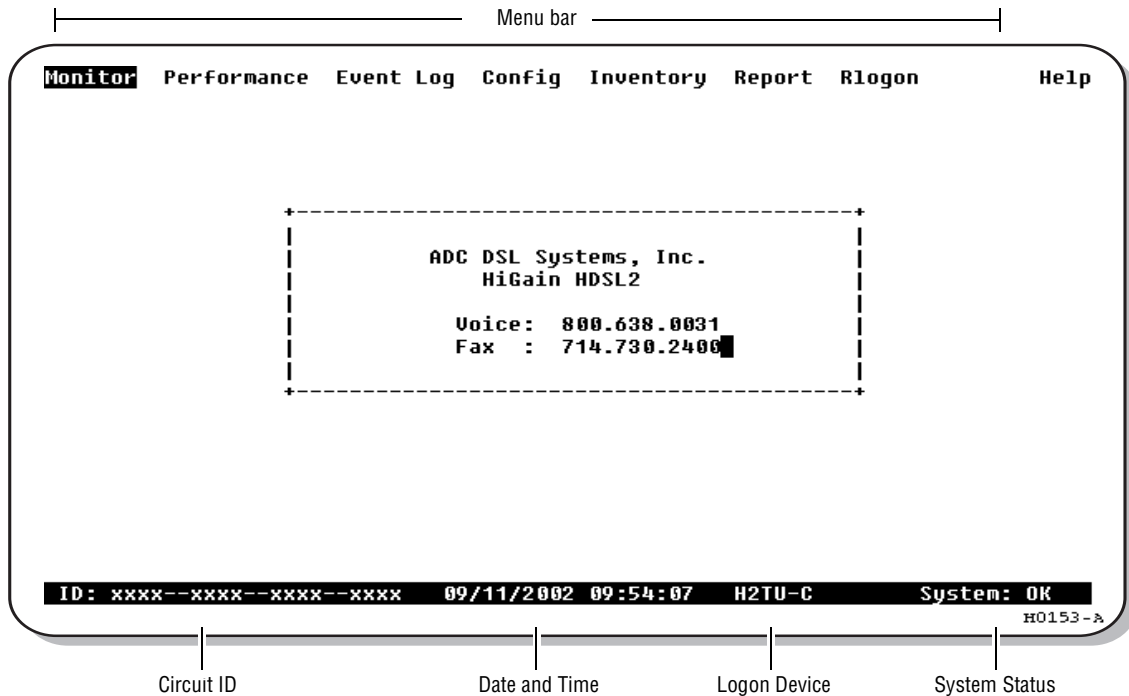

Figure 3. Logon Screen
- Use a maintenance terminal (ASCII terminal or a PC running terminal emulation software) connected to the H2TU-C craft port (or to an HMU craft port) to access the status, history, inventory, and provisioning screens (see Figure 3 on page 11).
To select a menu from the logon screen (Figure 3), use the ← → arrow keys, then press **ENTER**.